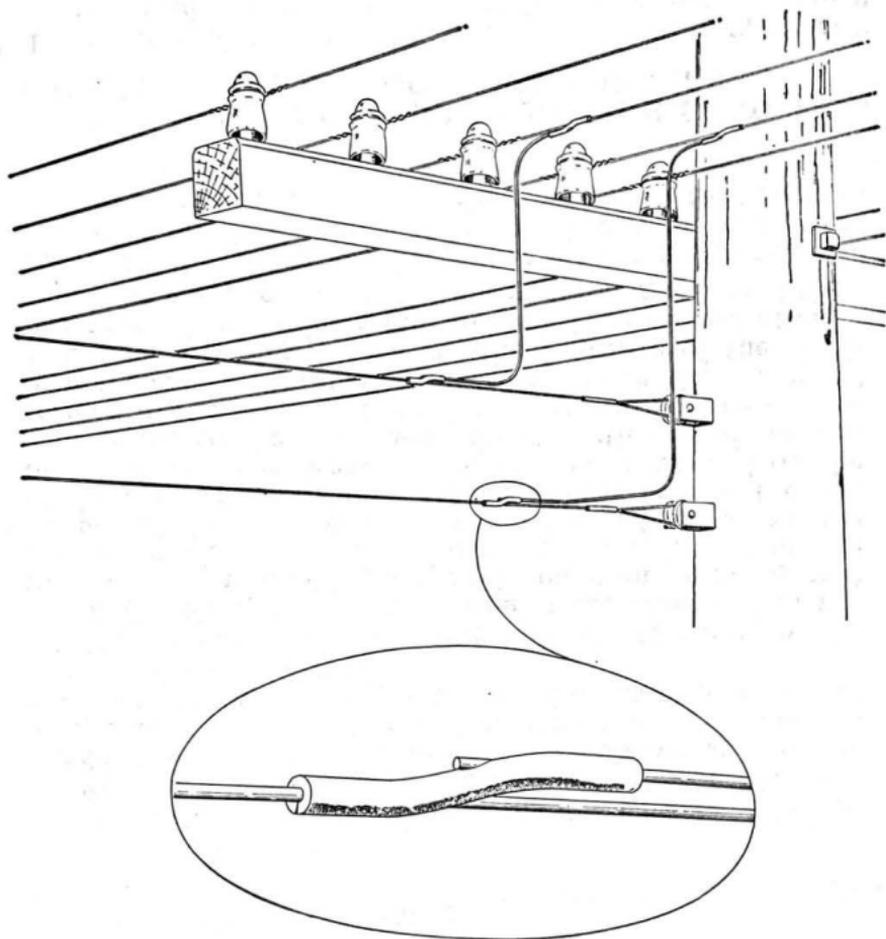

FIG. 11
4.01 Bridging sleeves may be used for connecting open wire side lead circuits to circuits in the main lead, as shown in Fig. 11. 104 copper line wire should be used for bridging 104 copper or 104 copper-steel wire, and 109 steel line wire for